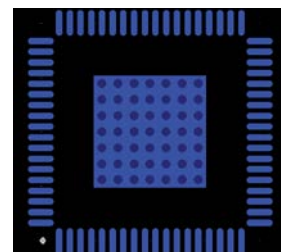

Figure 85. Exposed Pad Layout Example—Top View
- Place vias such that all layers of copper are connected, allowing for efficient heat and energy conductivity. For an example, see Figure 85, which shows 49 vias arranged in a 7  $\times$  7 grid in the pad area.